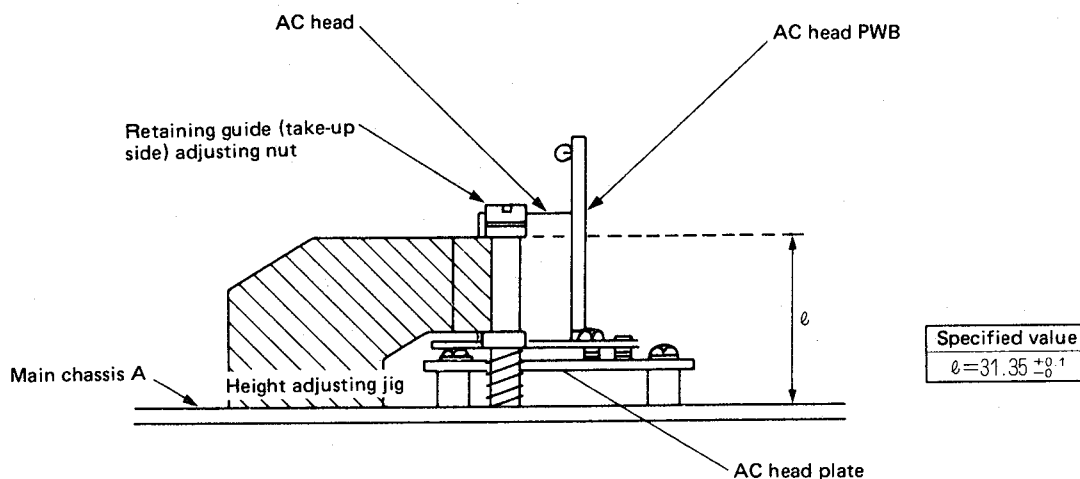

Figure 60.
- (1) Place a guide height adjusting jig on the main chassis A as shown in Fig. 60.
- (2) Slowly rotate the retaining guide adjusting nut with a bladed screwdriver so as to obtain the specified value ($l = 31.35^{+0.1}_{-0}$ mm).